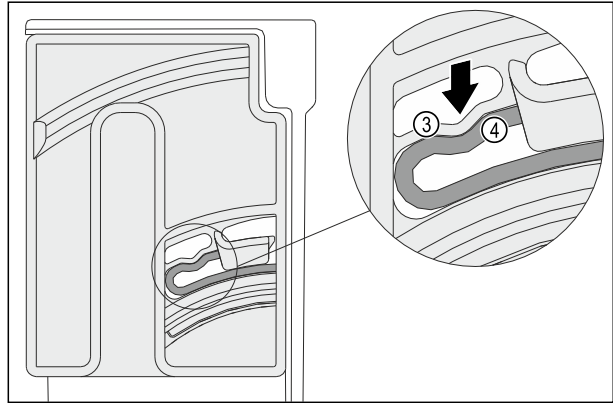

Fig. 100
- The elastic element Fig. 100 (3) of the turning unit audibly engages in the round shape of the rib Fig. 100 (4).